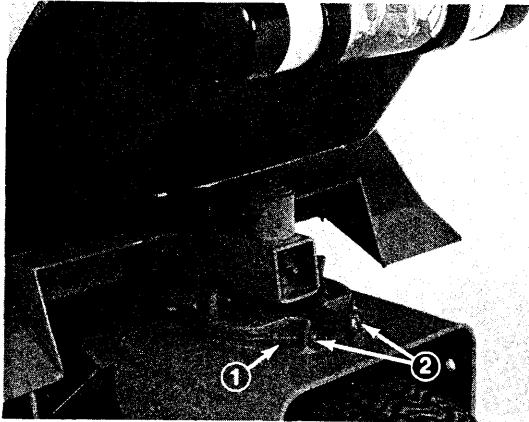

Figure 43
1. Secure cable end hex with open end wrench (Fig. 43).
2. Turn nut on cable end until slack is removed. Repeat procedure on remaining cable end (Fig. 43).